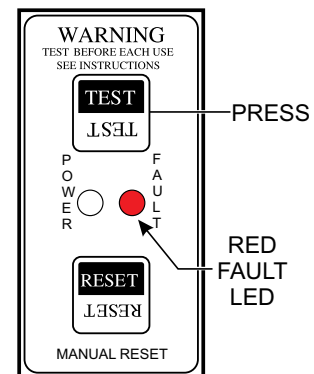

Figure 67. GFCI Sensing Module (Red/Fault LED ON)
5. Next, press the **TEST** button on the GFCI module (Figure 67) and verify that the **green** POWER LED turns **OFF** and the **red** FAULT LED turns **ON**.